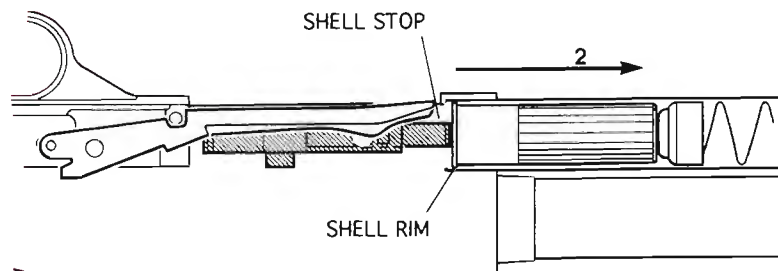

Figure 7
2. Continue carefully pushing the shotshell into the magazine tube until the rim of the shell is past the shell stop (Figure 7). The shell stop will "snap" over the rim of the shell. Repeat this sequence to load each additional shell.